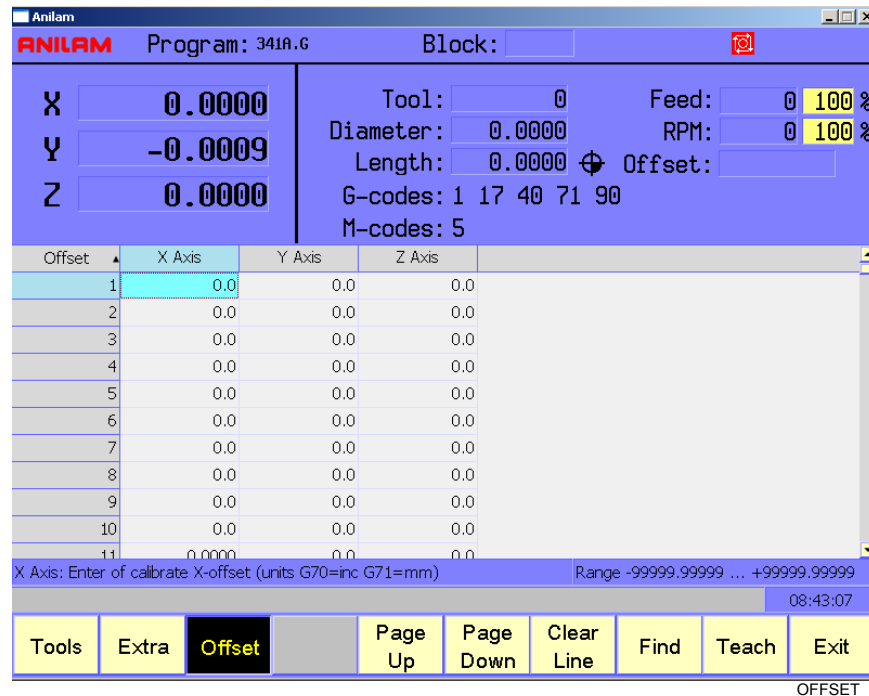

Figure 4-10, Fixture Offset Table
1. In Manual Mode, press **F9 (Tool)** + **F3 (Offset)**. The Fixture Offset Table activates. Refer to **Figure 4-10**.